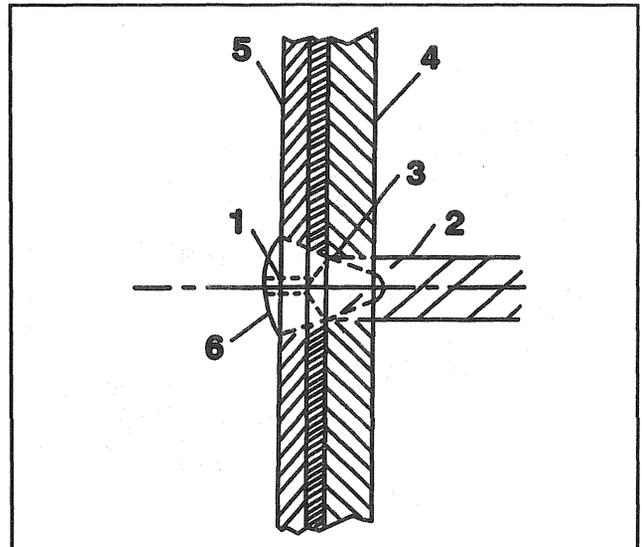

Figure 16—Drilling out Spot Welds
- C. Drill a 3 mm (1/8 inch) pilot hole through the welds deep enough to penetrate the hinge base only (Figure 16).
- D. Drill a 13 mm (1/2 inch) hole through the hinge base only using the smaller hole as a pilot (Figure 16).